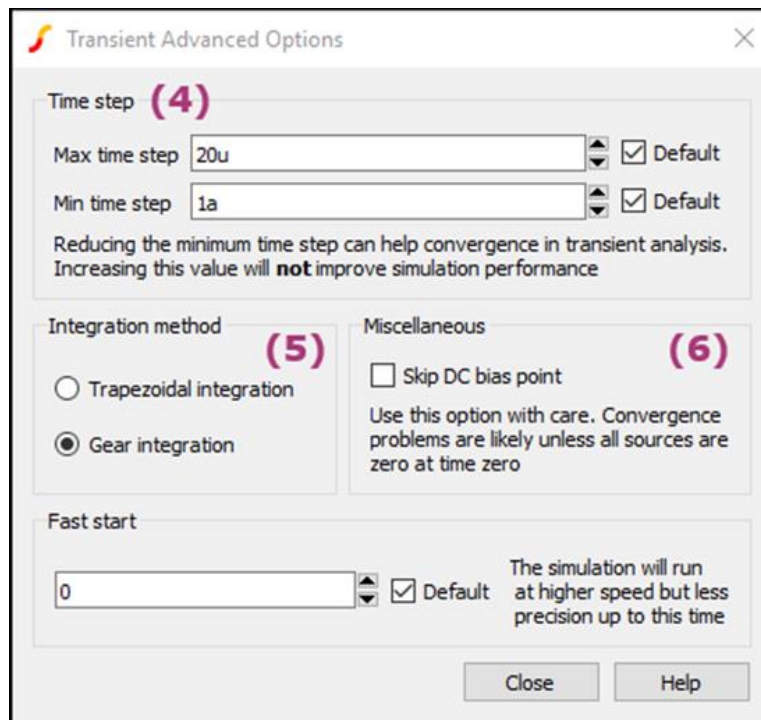

Figure 12 Simulation settings
- Stop time (1)** = total simulation time. Note that the simulation can be paused before the **Stop time** is reached, allowing the results obtained so far to be examined.
- Data output option (2)** = Sometimes it is desirable to restrict the amount of data being generated by the simulator which in some situations can be very large. It can be specified that data output does not begin until after a certain duration. It can also be specified a certain time interval for the data to be displayed.
- **Advanced option (3)** = press on the button and will opens the dialog box (Figure 12 Transient Advanced Options).